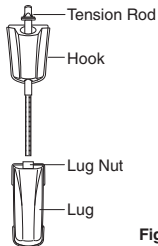

Fig.2
- Assemble a Tension Rod and Hook as shown and hook it on the Hoop above a Lug then finger tighten the Tension Rod into the Lug Nut. Attach the rest of the Tension Rods/Hooks on this side of the drum (Fig.2).